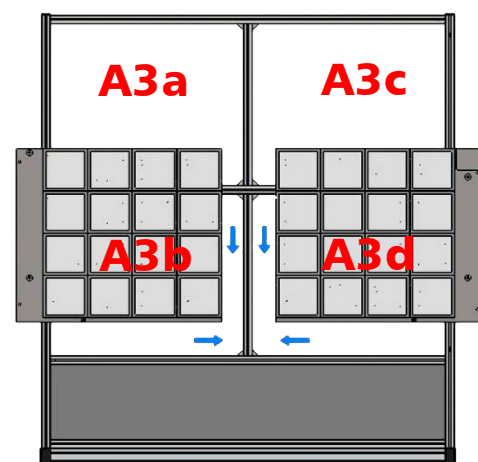

fig. 3.1-30
**Step 22** The basic modules **A3a** to **A3d** are marked bottom right (UR), bottom left (UL), top right (OR) and top left (OL). Insert the two lower basic modules into the frame construction using the z-profiled plates attached to the rear of each module (**fig. 3.1-30**). The basic modules will be fixed with two (2) provided socket head screws **M8x30** and two (2) washers for each module.